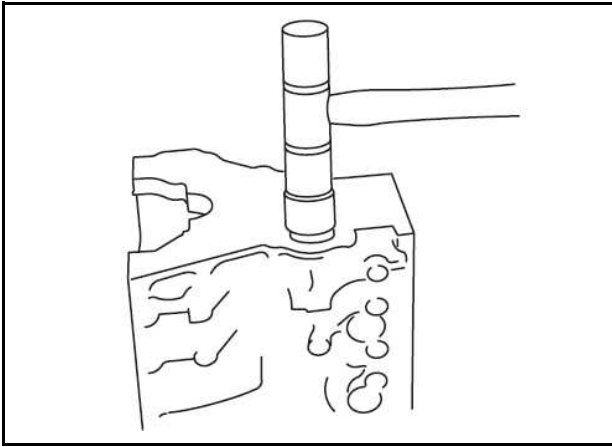

Fig.7-Installing Cam Bearing
- 2 Install camshaft bearing, Fig. 7.